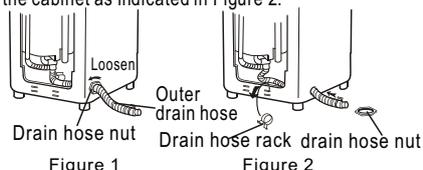
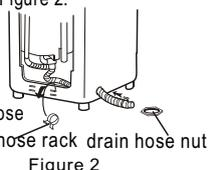

Figure 1
Figure 2
3. Put down the outer drain hose. Twist the drain hose nut counterclockwise to take it off as indicated in Figure 1. Take off the drain hose rack. Put the drain hose into the cabinet as indicated in Figure 2.